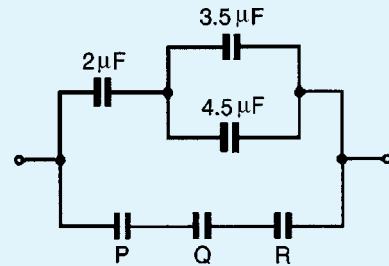

Figure 6.12
9. In Fig. 6.12 capacitors P , Q and R are identical and the total equivalent capacitance of the circuit is $3 \mu\text{F}$. Determine the values of P , Q and R [$4.2 \mu\text{F}$ each]